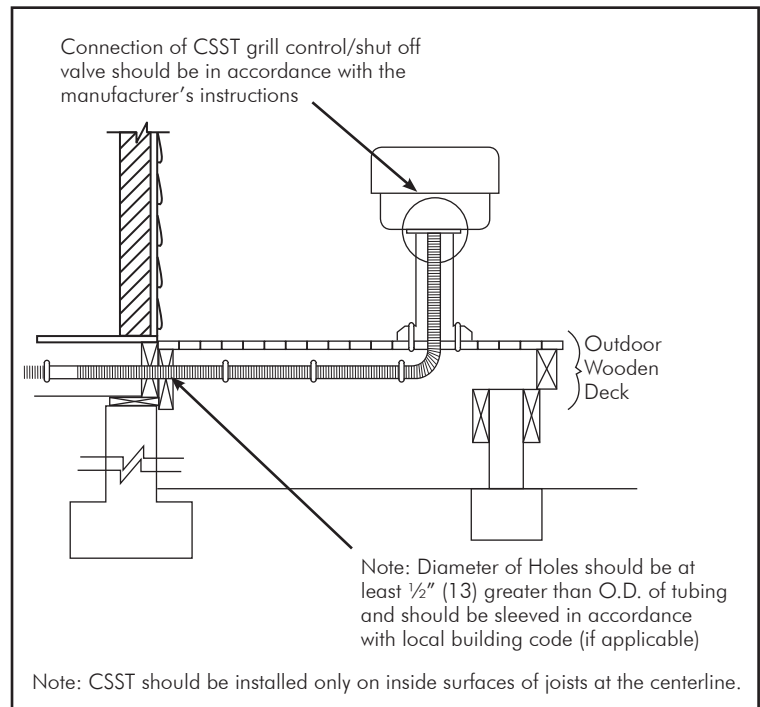

FIG. 4-25 Elevated deck direct connection
- Permanently mounted grills located on decks shall be connected to the DIAMONDBACK™ system as shown in **FIG. 4-25** and in accordance with Tecvalco Ltd.'s instructions. The outdoor portion of the DIAMONDBACK™ shall be supported against the side of any of the inside deck joists. If the elevation of the deck is below the top of the foundation, any exposed DIAMONDBACK™ shall be protected using conduit.
- Permanently mounted gas powered lights located on decks shall be connected to the DIAMONDBACK™ system the same as permanently mounted grills as shown in **FIG. 4-25**, and in accordance with the manufacturer's instructions.